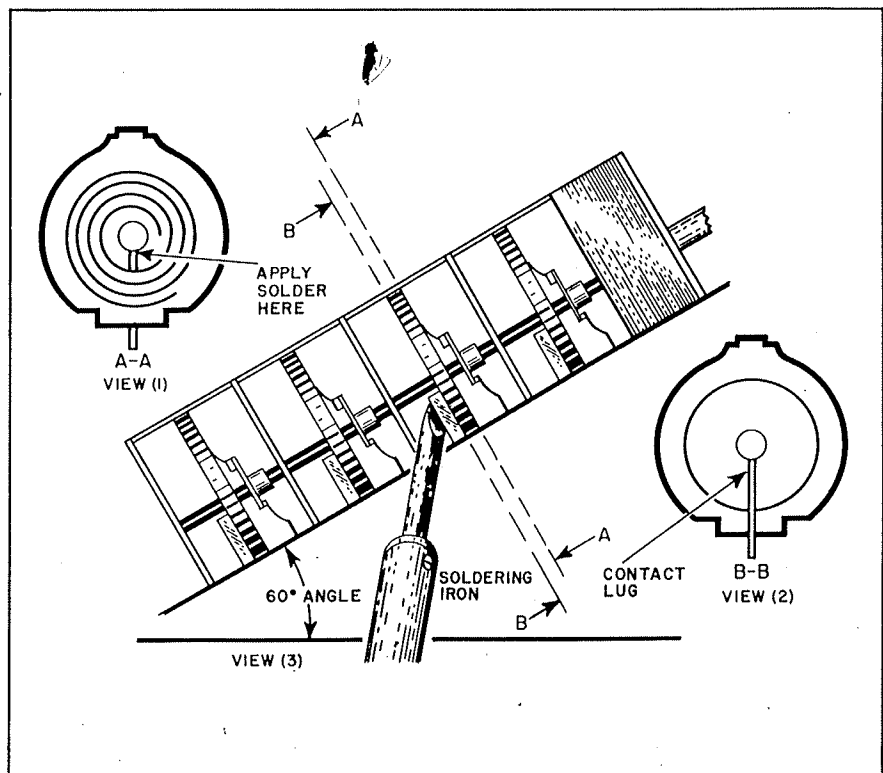

FIGURE T-2
3. Using a 150-watt soldering iron, with a $\frac{1}{4}$ " tip, heat the lug contacting the inner end of each spiral coil, as shown in (2) and (3) of figure T-2. Be sure that your soldering iron is clean and well tinned.
the spiral meet, as shown in (1) of figure T-2. The solder should be applied near the upper end of the lug and allowed to run down to the spiral. In most cases, the solder already present will be sufficient.